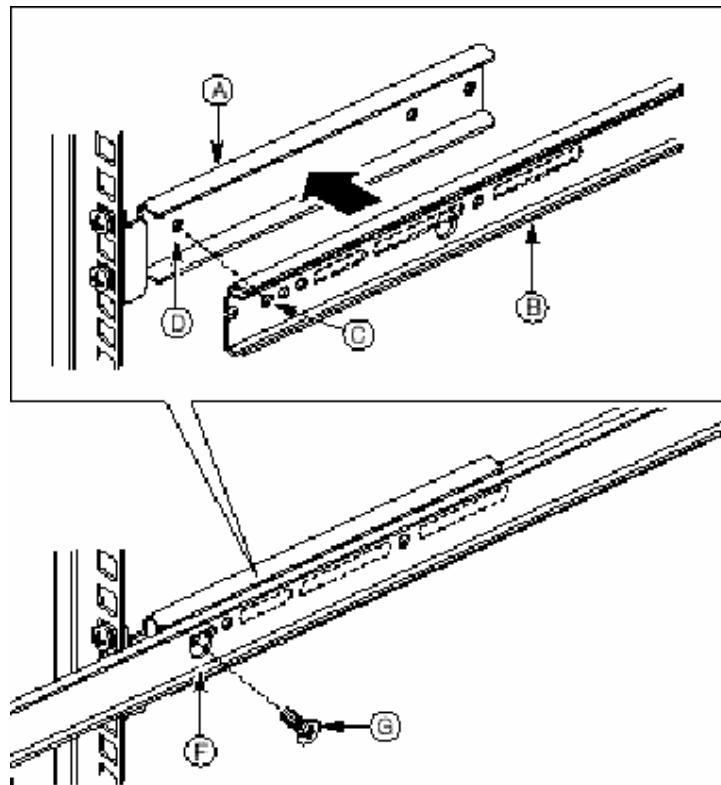

Figure 38: Attaching Rail Assembly to Front Bracket
1. Using two screws with washers (Figure 38, A), attach one nut bar (B) at the same height on the inside of each rack post. Do not completely tighten the screws—leave them loose enough to allow insertion of the brackets in the next step.
2. Align the front screw hole (Figure 38, C) in the outer rail (B) with the threaded hole (D) nearest the front of the front bracket (A) and fit the rail assembly into the front and rear brackets.
3. Slide the middle rail toward the front (E) until the access hole (F) in the middle rail is aligned with the front screw hole (C) in the outer rail.
4. Insert screw (G) through the access hole and loosely attach the outer rail to the front bracket.
6. Firmly tighten the front screw (G) installed loosely in step 4.